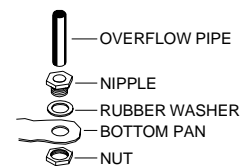

FIG. 3
- **Install overflow assembly.** Remove nut and place nipple through the hole in the pan, with the rubber washer between the pan and the head of the drain nipple (Fig. 3). Screw on nut and draw up tight against bottom of pan. Insert overflow pipe in nipple to retain water. Overflow pipe may be removed to drain pan when necessary. A garden hose may be screwed on the drain nipple to drain water away from your unit.